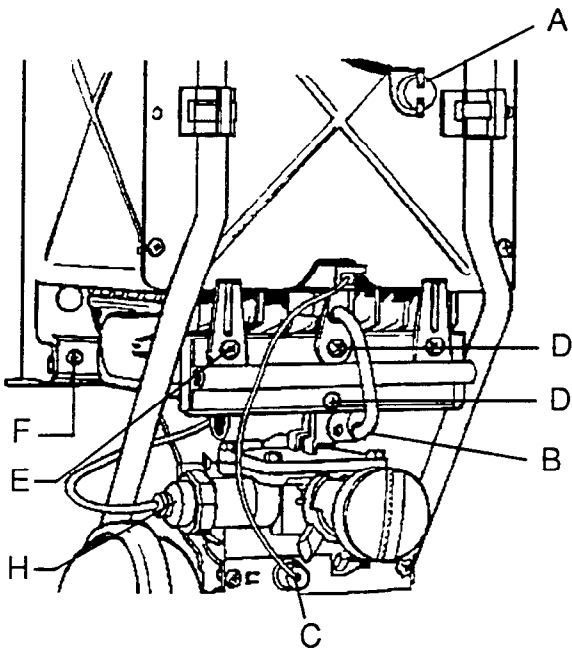

Fig.8
a) Remove the thermal switch (A) by pulling forwards from its support bracket (see fig. 8).
b) Slacken screw (B) at the base of the pilot tube where the pilot tube is joined onto the gas section. Remove tube by pulling forwards.
c) Remove the electrode lead from the piezo unit cartridge by pulling off (C).
d) Remove the two screws (D) and the two screws (E) securing the manifold.